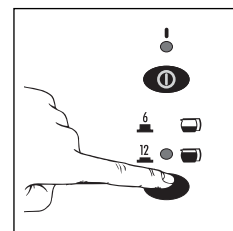

fig. 11
- In the models with the 6/12 cup switch " $\frac{6}{12}$ " for filter coffee, if more than six cups are required, press the 6/12 cup switch " $\frac{6}{12}$ " (Fig. 11), and the corresponding pilot light will come on. If less than six cups are required, do not press the switch. The hot water will flow more slowly through the ground coffee, with better results.